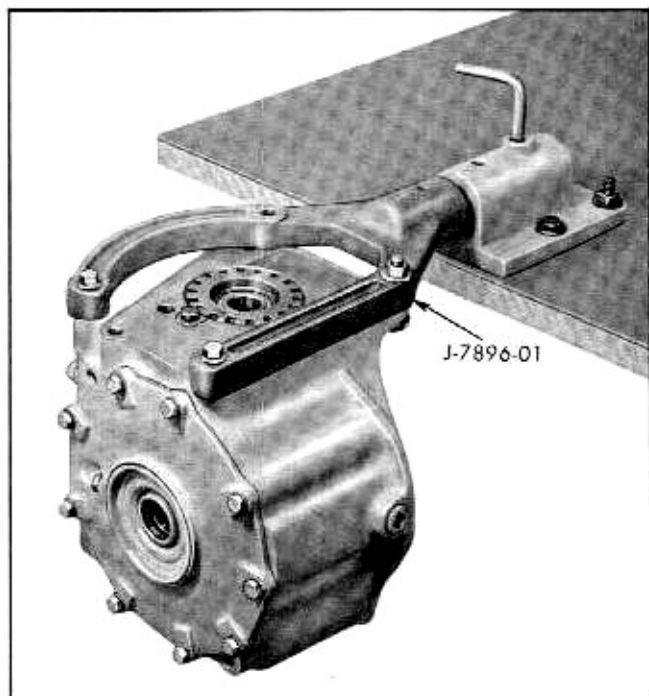

Fig. 4-22 Carrier Assembly Mounted on Fixture
3. Mount differential in holding fixture J-7896-01 (Fig. 4-22).